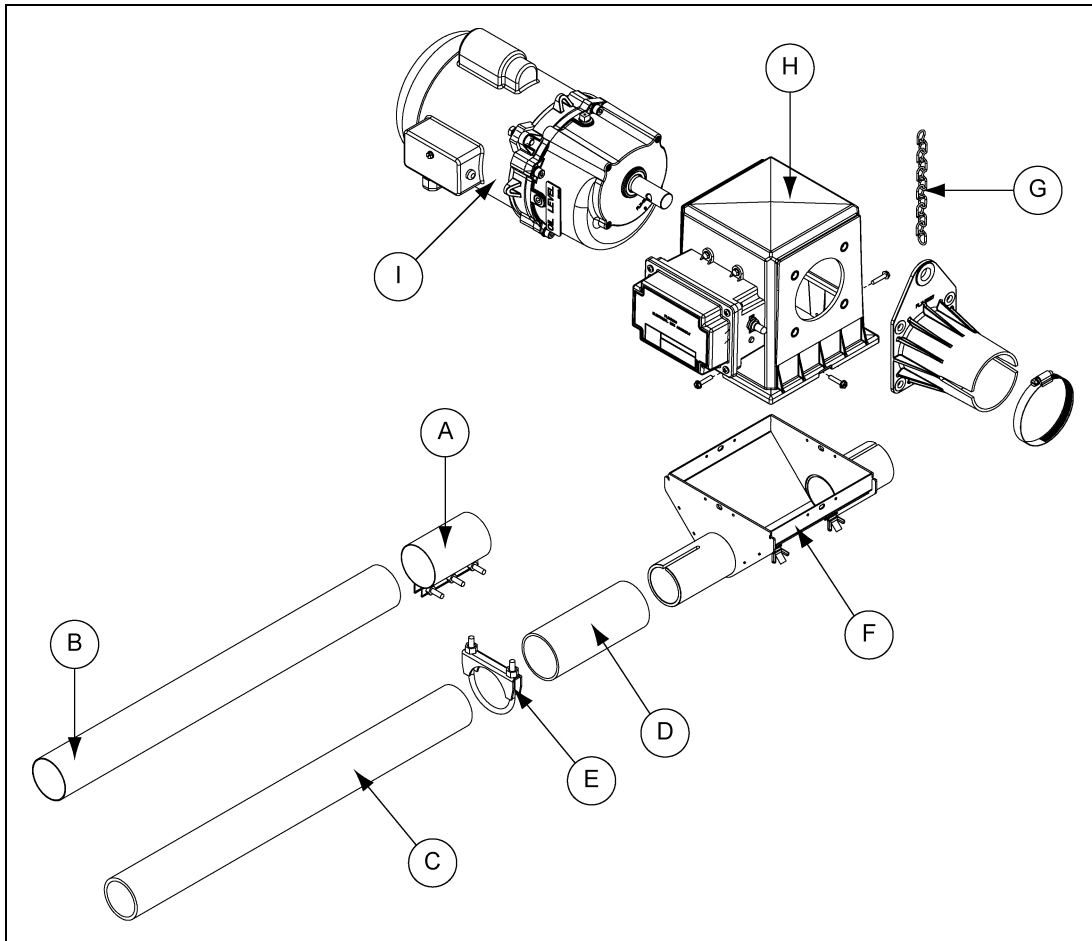

Figure 9B *Fill Hopper Installation*
1. Attach fill hopper to the Flex-Flo control unit using #10 x 1" self-drilling screws provided with Flex-Flo control. (See Figure 9B.)